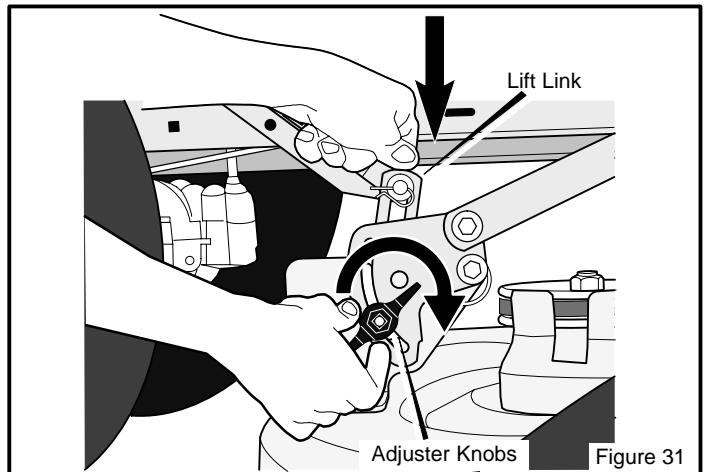

Figure 31
6. Loosen the left and right **adjuster knobs** (Figure 31). Push down on each side of the mower housing. Make sure both sides of the mower housing are setting on a flat surface. Also, make sure the lift links are loose and can easily move up or down.
7. Push down on the **lift links** and tighten the left and right **adjuster knobs** (Figure 31). Make sure the **adjuster knobs** are tight. If necessary, use a wrench to tighten the **adjuster knobs**. For plastic **adjuster knobs**, tighten to a torque of 7 foot pounds (9,5 N-m). For metal **adjuster knobs**, tighten to a torque of 10 foot pounds (13,5 N-m).